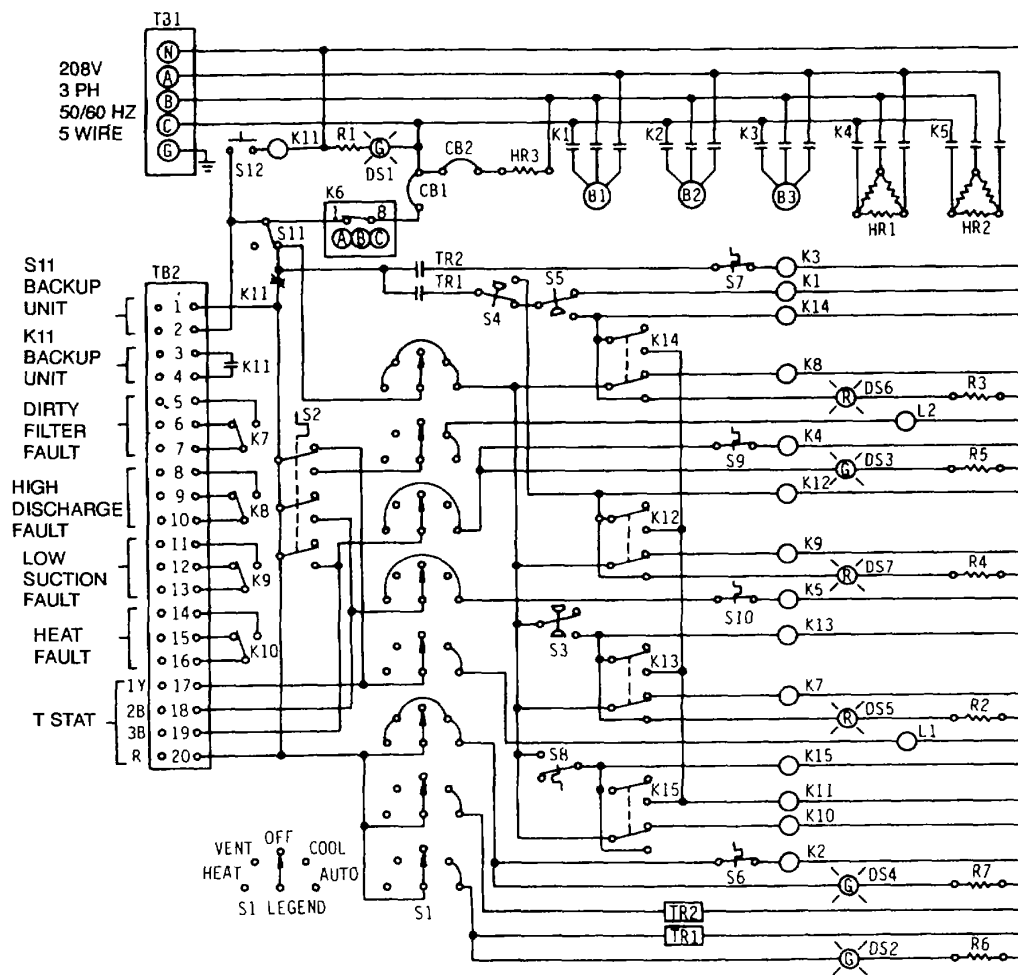

Figure 4-12. Electrical Schematic
4.18 **FUNCTIONAL DESCRIPTION.** The air conditioner control circuits are described in the following paragraphs. It is very important for the technician to note that even when the air conditioner mode switch is positioned to OFF and circuit breakers CB1 and CB2 are open, live voltage is available throughout the air conditioner and at least one input phase C circuit is complete to neutral. (See fig 4-12 and fig. FO-2.).
4.19 COOL FUNCTION. The principles of operation for the air conditioner, operating as the primary unit while in the COOL or AUTO mode of Operation, are described in the following subparagraphs (see fig. 4-12 and fig FO-2.).
4.20 HEAT FUNCTION. The principles of operation for the air conditioner, operating as the primary unit while in the HEAT or AUTO mode of operation, are described in the following subparagraphs (see fig. 4-12).